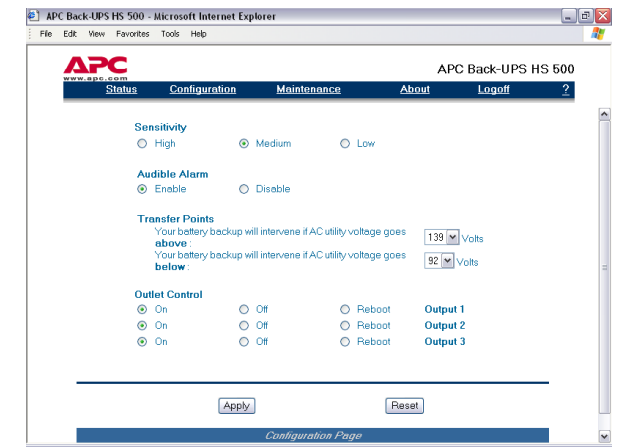

Figure 16. Configuration Page Screen
15. Using the **Configuration Page** Screen (Figure 16), you can adjust the **Sensitivity** of the Back-UPS. By adjusting the Sensitivity, the Back-UPS will allow the unit to switch to battery power depending on the quality of the AC utility power being supplied to the unit. Use of the Sensitivity settings are for the following conditions: